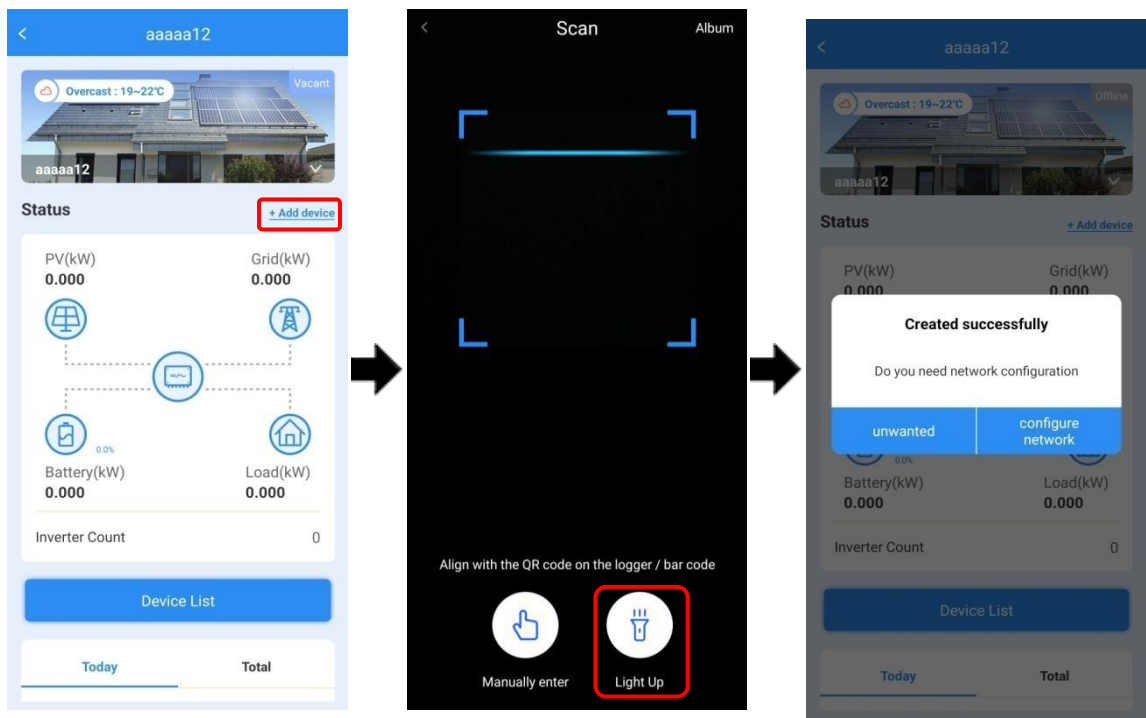

Figure4-5 Add new device
Step 7 Select "**+Add device**" to scan the QR code of the collector, the device will be added to the built plant, as shown in Figure4-5.